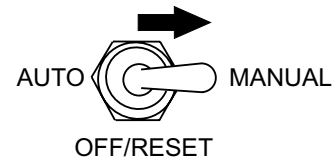

Figure 25. MPEC Control Switch (Manual Position)
1. Place the **MPEC control switch** in the **MANUAL** position to start the engine (Figure 25) position.